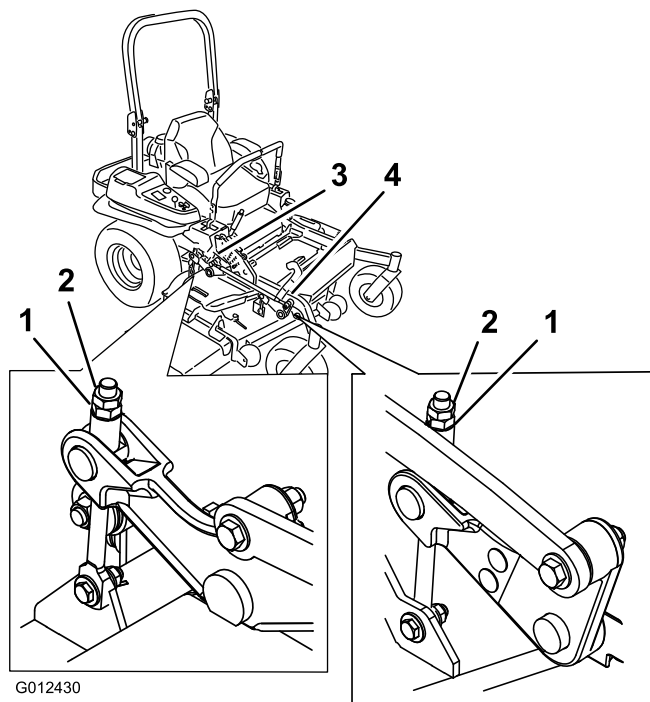

Figure 94
10. Fine-tune the adjustment nut on the front deck lift assembly by turning it (Figure 94).
16. Fine-tune the adjustment nut on the front deck lift assembly by turning it (Figure 94).